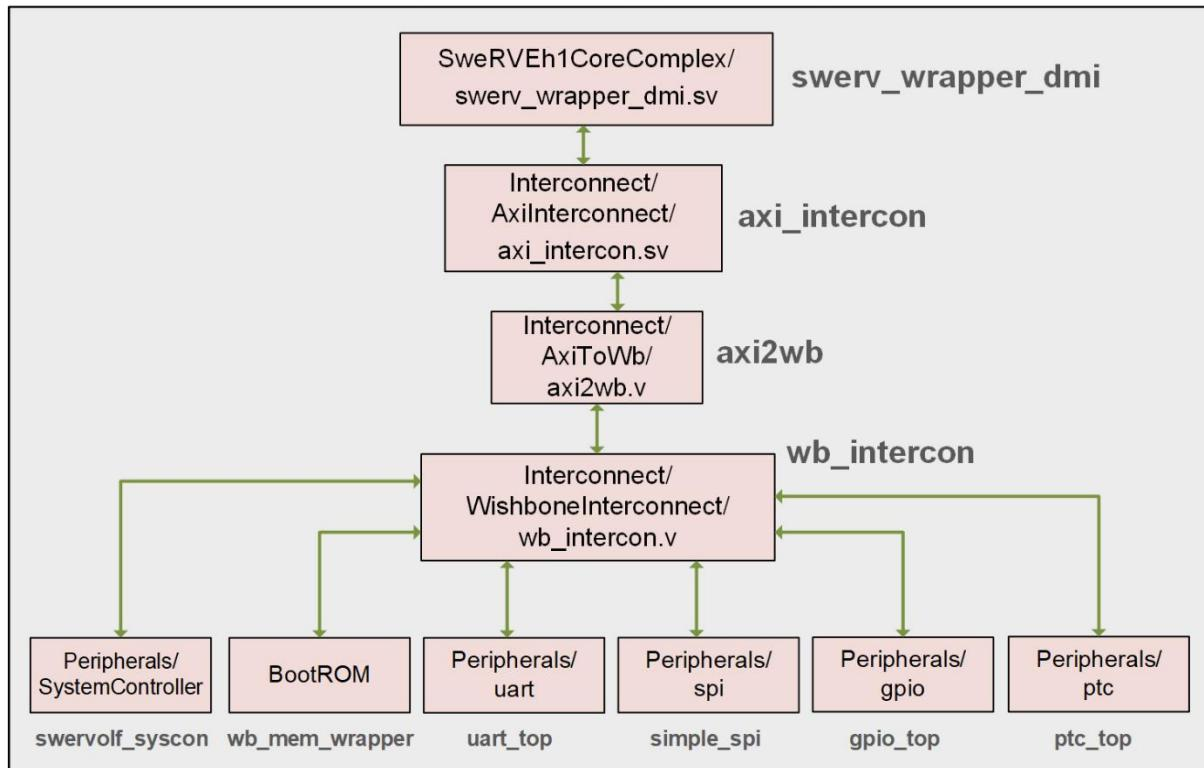

Figure 28. SweRVolfX SoC
Figure 28 shows the file structure for the **SweRVolfX SoC** shown in Figure 21. The SoC is organized as the modules that correspond to the blocks shown in Figure 21.
- **swervolf_core**: instantiation of the **SweRVolfX SoC** described in the previous subsection (Figure 28). This also requires a constraints file called *rvfganexys.xdc* (available at *[RVfpgaPath]/RVfpga/src/*), which defines the connections between the SoC and the board.